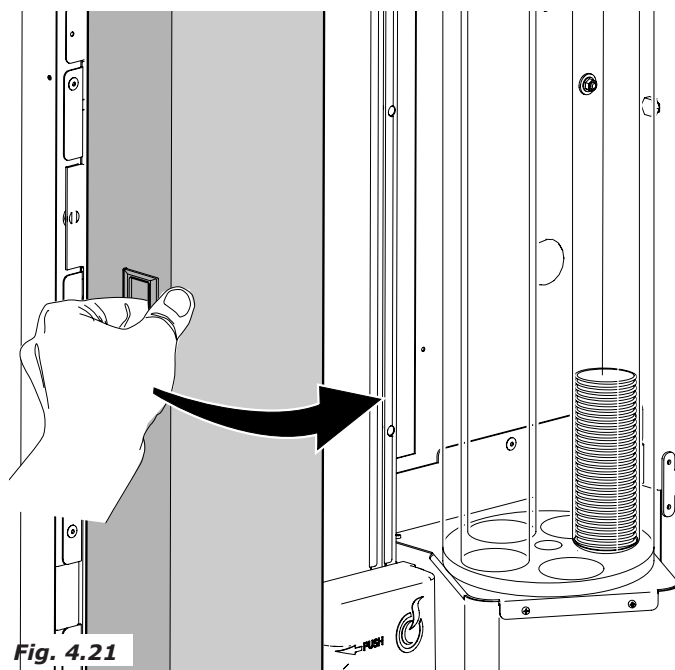

Fig. 4.21
- open the board and coin mechanism protection door (Fig. 4.21)